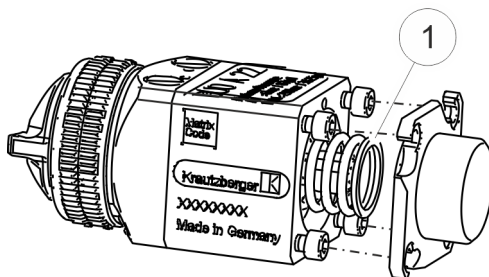

Fig. 29: Removing the pressure spring
5. ➔ Remove the pressure spring ( Fig. 29/1).